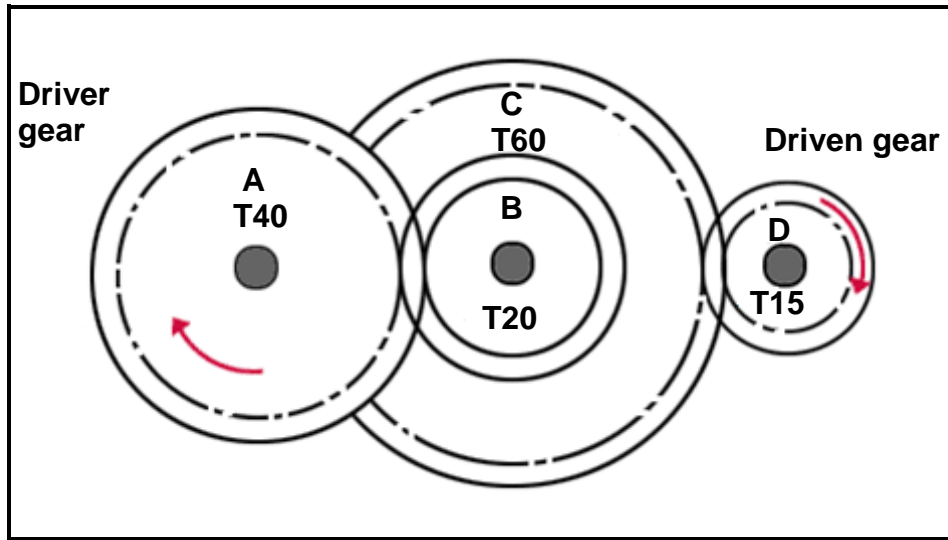

FIGURE 1.5
- A It supports and aligns the shaft. (1)
1.16 What is the gear ratio of the gear system in FIGURE 1.5 below?